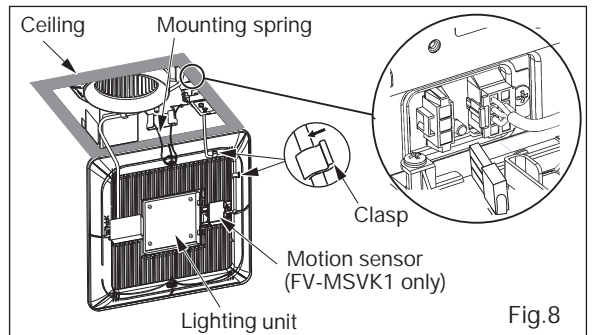

Fig.8
10. Insert the grille mounting spring on the wiring side into the slot and insert the plug connector into the housing of the lighting unit. (Fig.8)